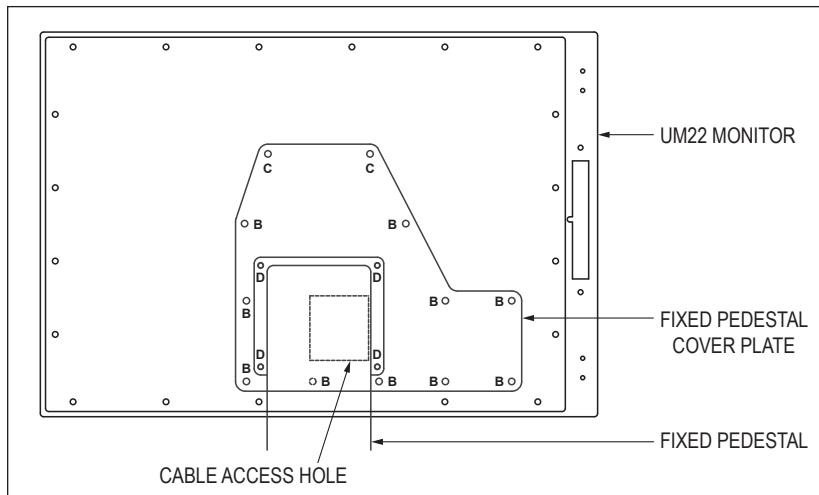

FIGURE 3
6. Refer to Figure 3. Route cables through the cable access hole on the fixed pedestal cover plate.
7. Install the provided two M4 sealing screws and washers in the locations marked "C" in Figure 3. Tighten all screws until the gasket is approximately 1/16" to 3/32" thick.
8. Use the ten 10-32 screws and washers that were removed in step 4 and install them in the locations marked "B" in Figure 3. Tighten all screws until the gasket is approximately 1/16" to 3/32" thick.
9. Refer to Figure 3. Route cables into the pedestal by positioning and supporting the monitor so that the cables exiting from the monitor can be easily routed into the top of the pedestal.
10. Attach the monitor to the pedestal using the provided four 10-32 acorn nuts and nylon washers in the locations marked "D" in Figure 3.